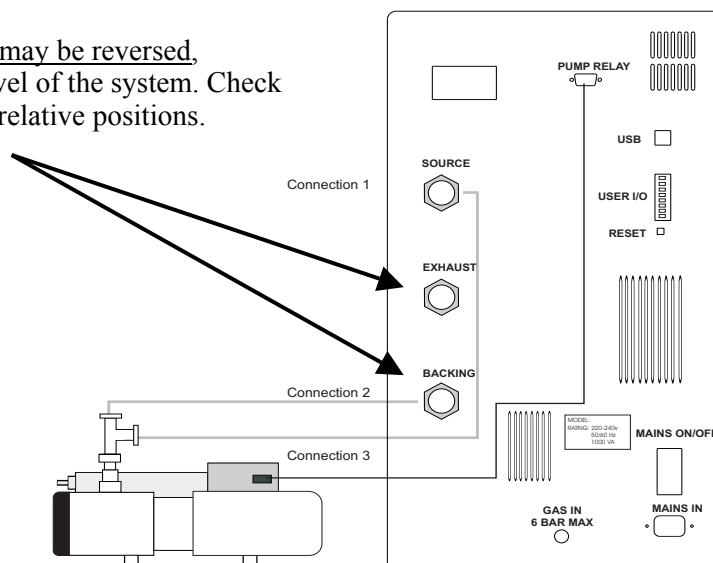

Figure 1-3. Rotary vacuum pump connections
2. The backing lines labelled SOURCE and BACKING should then be connected to the “T” piece on the rotary pump, using KF25 centering rings and clamps (see **Connections 1 and 2**, Figure 1-3).